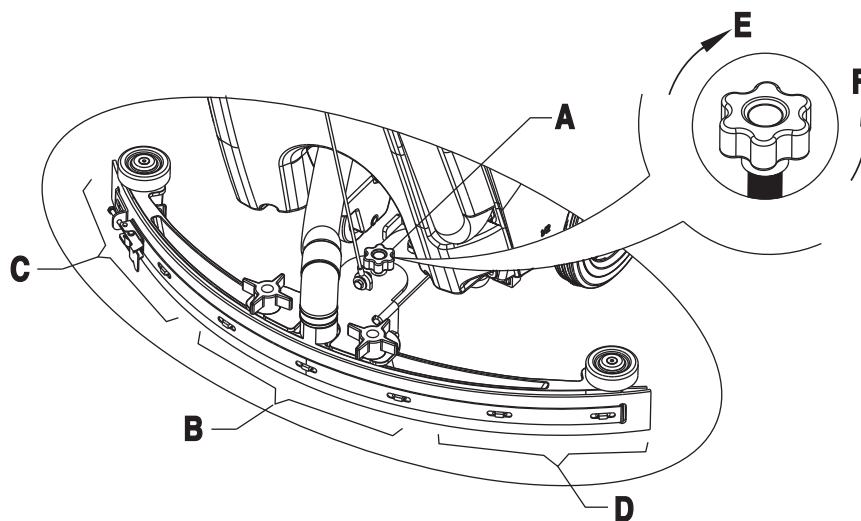

FIGURE 4
8. Adjust the squeegee through the adjusting handle (A) of the squeegee (Figure 4).